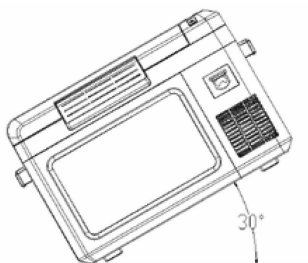

Fig. 2
b. As shown in Figure 2, when the tilt angle in the direction exceeds 30 degrees, turn off the compressor, the machine's buzzer will beep three times and the E0 alarm will flash. Once equalized, the display screen will restore the current temperature inside the box. After leveling for 3 minutes, the compressor restarts.